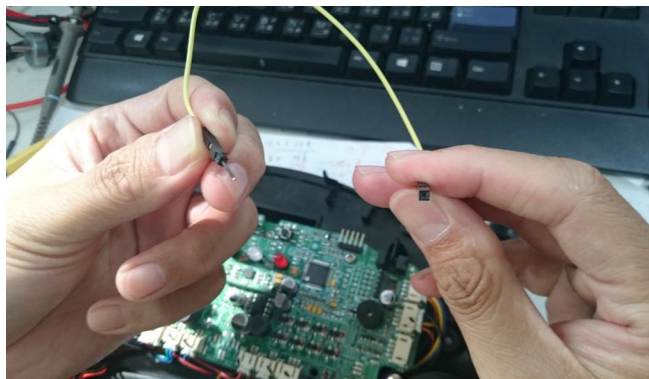

Fig. 1
**Step 1:** Power off device and short calibration enable pin to ground pin with jumper(wire) shown as Fig. 1 and Fig. 2.